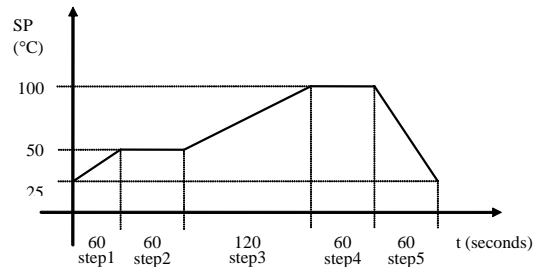

Figure 2.25 – Configuration Example
2) The two arrays define the Setpoint value (y-axis) in function of the time (t-axis). Between two given points, the Setpoint is calculated by interpolation. As each segment is defined by [START_VAL]_i, [DURATION]_i and [START_VAL]_{i+1}, a profile with “n” segments will need **n+1** starting values and **n** time durations. As example, the two following arrays define the profile shown on Figure 2.25.